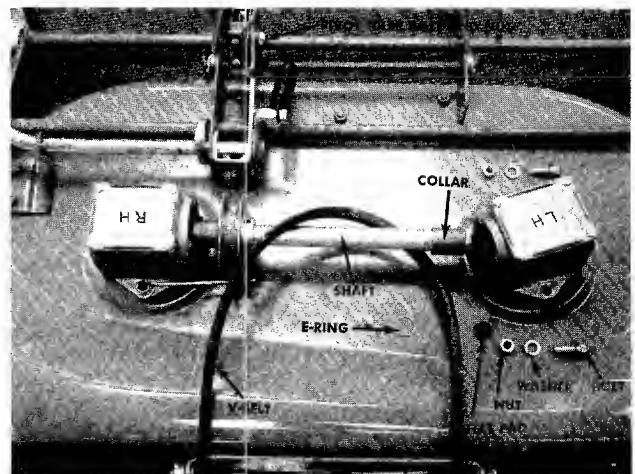

FIGURE 22. DECK BELT REPLACEMENT
- Step 1. Engage the blade engagement lever as shown in figure 22.
- Step 2. Remove the E-ring from the shaft. See figure 22.